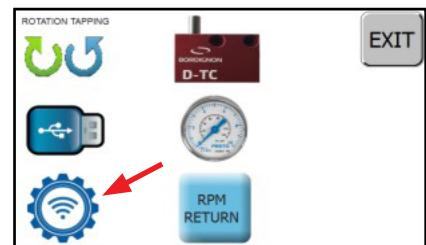

FIG. 1
- On the main screen, press the Service icon (pag. 14) and then the OPT icon to access the Optionals page (fig. 1)